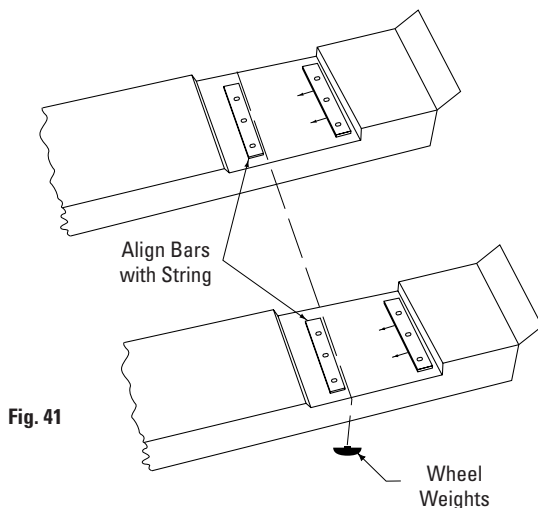

Fig. 41
- B. Place a weighted string, Fig. 41, across the runways so that the string is touching along the full length of both rear guide bars. If the string is not touching, tap the ends of the guide bars lightly until the guide bars make full contact against the string. Tighten the rear guide bar mounting bolts securely and remove the string.